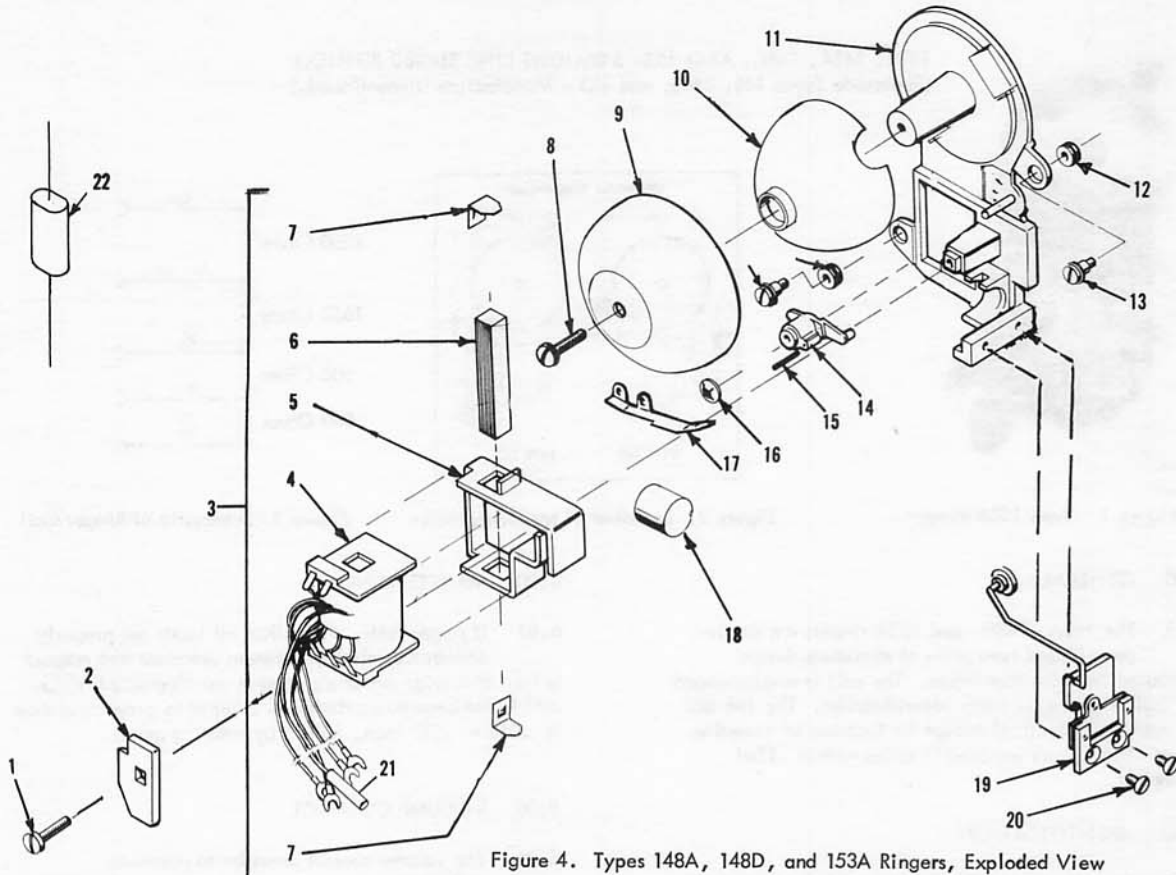

Figure 4. Types 148A, 148D, and 153A Ringers, Exploded View
6.02 TO REPLACE COIL. Be sure to have spare Retainers, (item 7, figure 4), on hand as they may be damaged during removal. Index the Gong with the Frame by marking both with matching marks. Remove the Gong Mounting Screw, Gong, and Resonator. Use a screwdriver and work Retainers out. Remove Laminations (6), roll coil (4) out and roll new coil in. Install Laminations and Retainers.